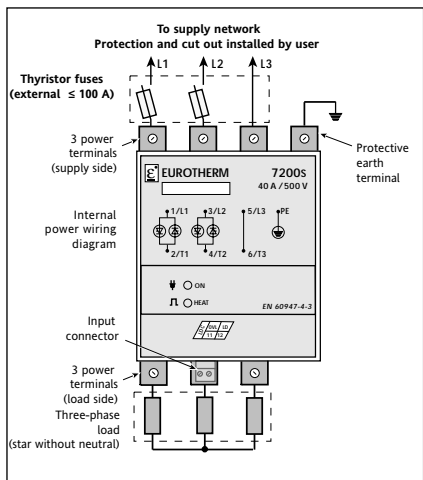

Figure 2-7 Connecting a three-phase load using Star without neutral configuration (3S)
- star without neutral (3 connection wires, code 3S), figure 2-7